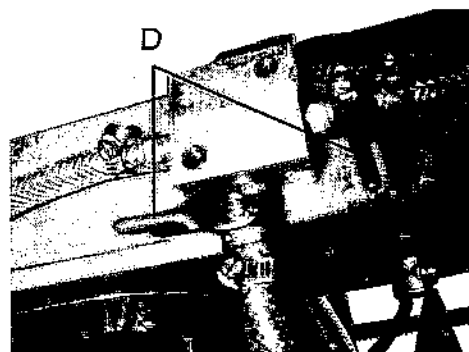

Fig. 26
4. Lock the two handles (D - Fig. 26) on the saw arm by either turning it 90 counter-clockwise or clockwise against the hose.
5. Release the handle (E - Fig. 26) by turning it clockwise all the way to the end.